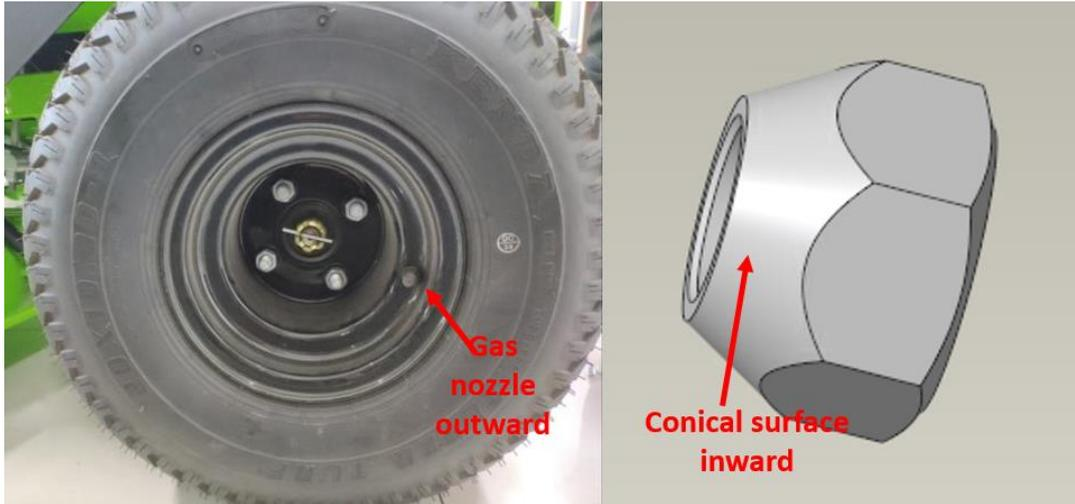

Fig. 3
3. As shown in Fig. 3, make the gas nozzle of the rear wheel facing outwards and make the conical surface of the clamp nut facing inwards. Tighten the clamp nuts (eight nuts in total for left & right rear wheels) clockwise with a 21 mm socket wrench to the torque of 95 N.m.